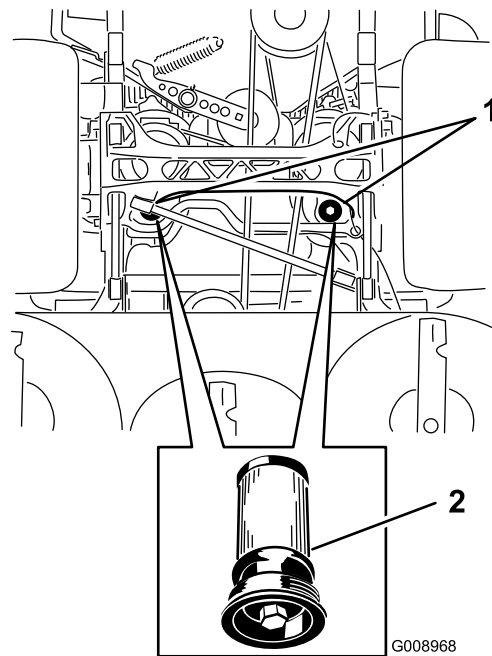

Figure 103
5. Place a drain pan under the filter, remove the old filter, and wipe the surface clean (Figure 103).
6. Apply a thin coat of hydraulic fluid to the rubber gasket on the replacement filter (Figure 103).